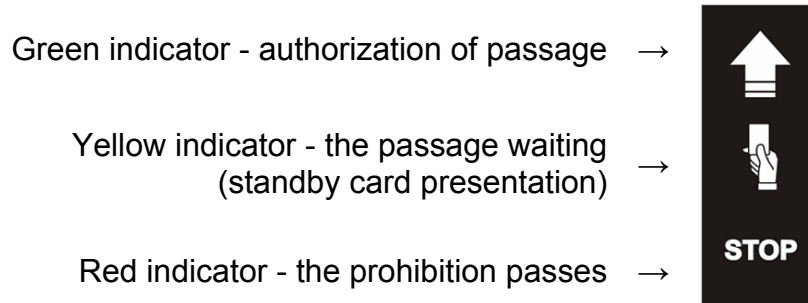

Figure 3. Mnemonic indicators display unit
The cover (4) houses: on the external side – an indication module (5) with 3 mnemonic indicators, (shown in Figure 3), on the internal side – a reader (a control board without casing with an antenna). The cover has a slot for cards capturing (6).